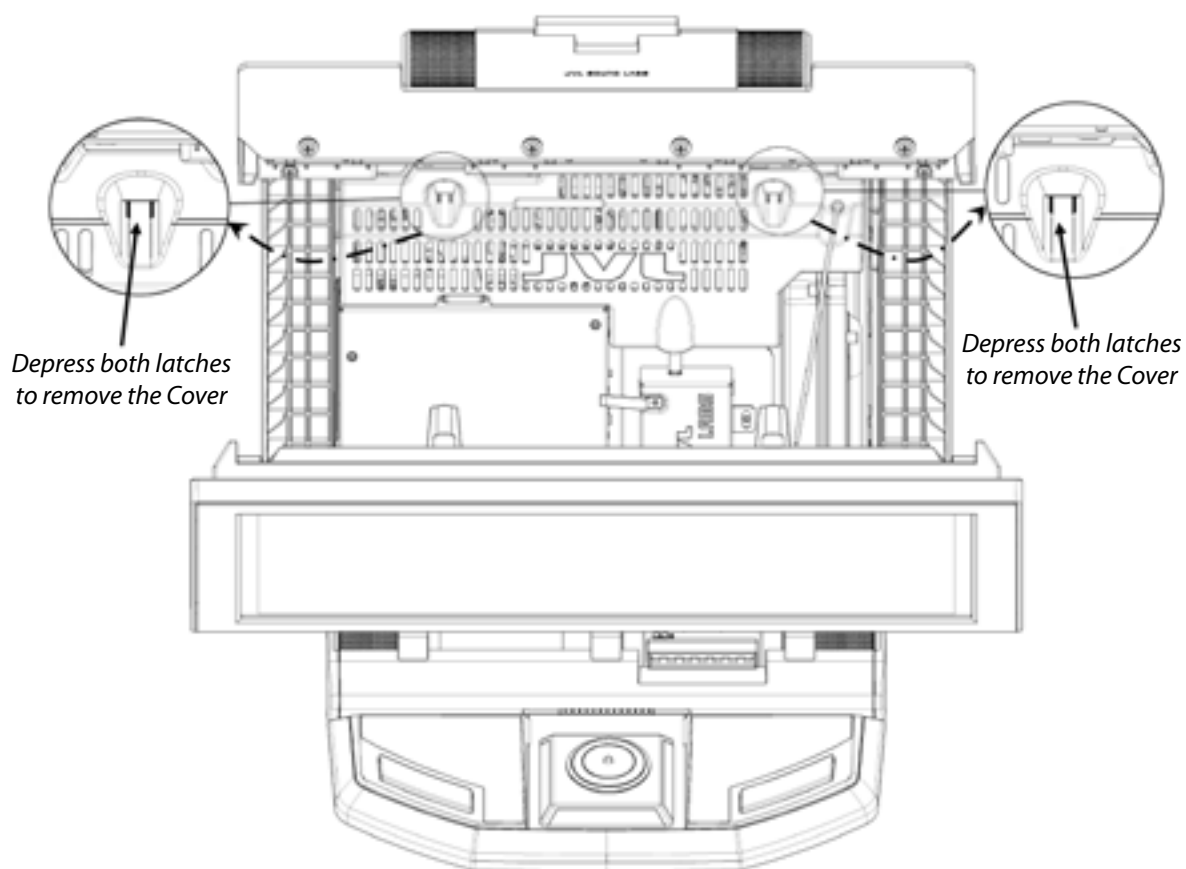

Fig. 5
5. Press on the snaps of the Inner Cover to unlock them. Tilt the cover towards you, and then slide the Inner Cover upwards. Move it along the Monitor Stopper Cable and set it aside (see Fig. 5 on page 30 for details).
8. Press on the snaps of the Inner Cover to unlock them. Tilt the cover towards you, and then slide the Inner Cover upwards. Move it along the Monitor Stopper Cable and set it aside (see Fig. 5 on page 30 for details).